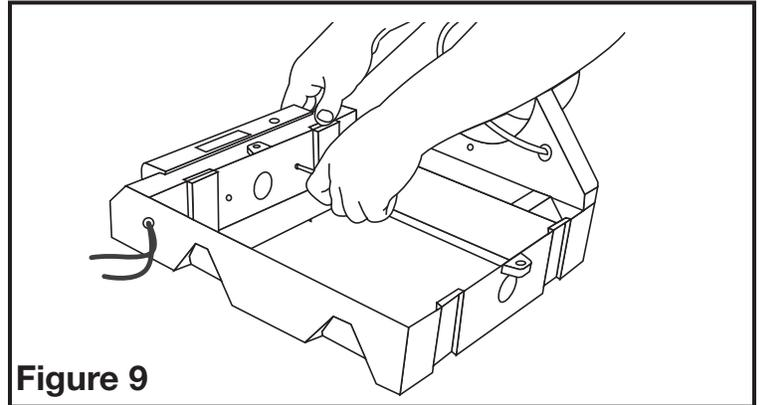

Figure 9
3. Remove the Digital Humidistat Top Console by removing the 2 screws which hold it in place. TAKE CARE NOT TO DAMAGE THE HUMIDISTAT SENSOR AT THE END OF THE WIRE EXITING THE BACK OF THE DIGITAL HUMIDISTAT TOP CONSOLE (**Figure 9**).